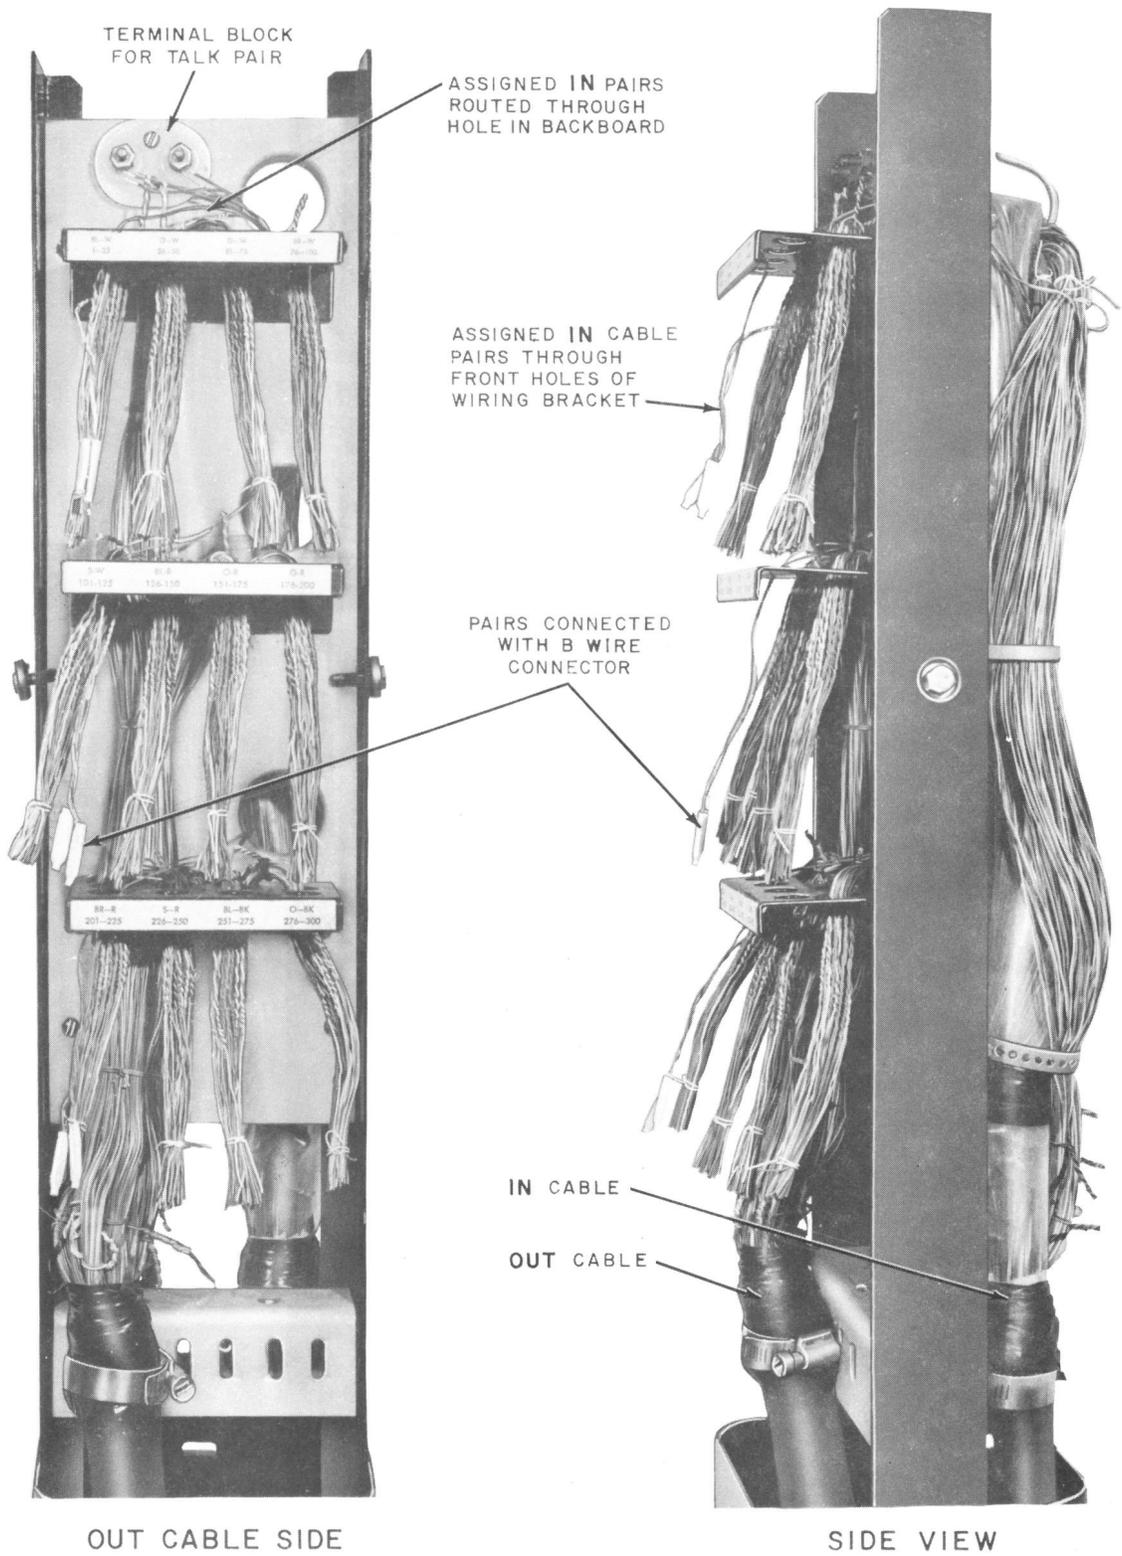

Fig. 5—L Backboard
- (c) **Access Points in Buried Plant**—The L Backboard (Fig. 5), the M Backboard (Fig.